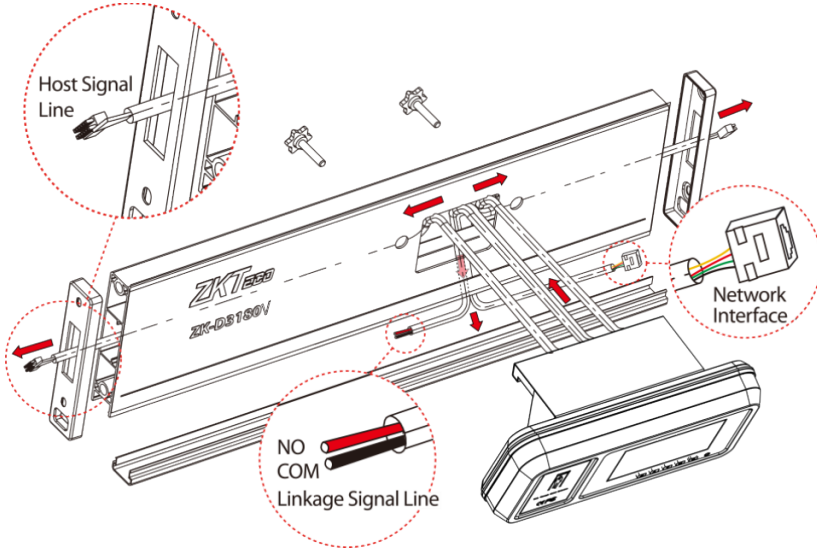

Figure 3-5
**Step 5:** Pass the Host Signal Line, the Linkage Signal Line and the Network Interface Line through the opening of the front beam, as shown in the figure 3-5 below.